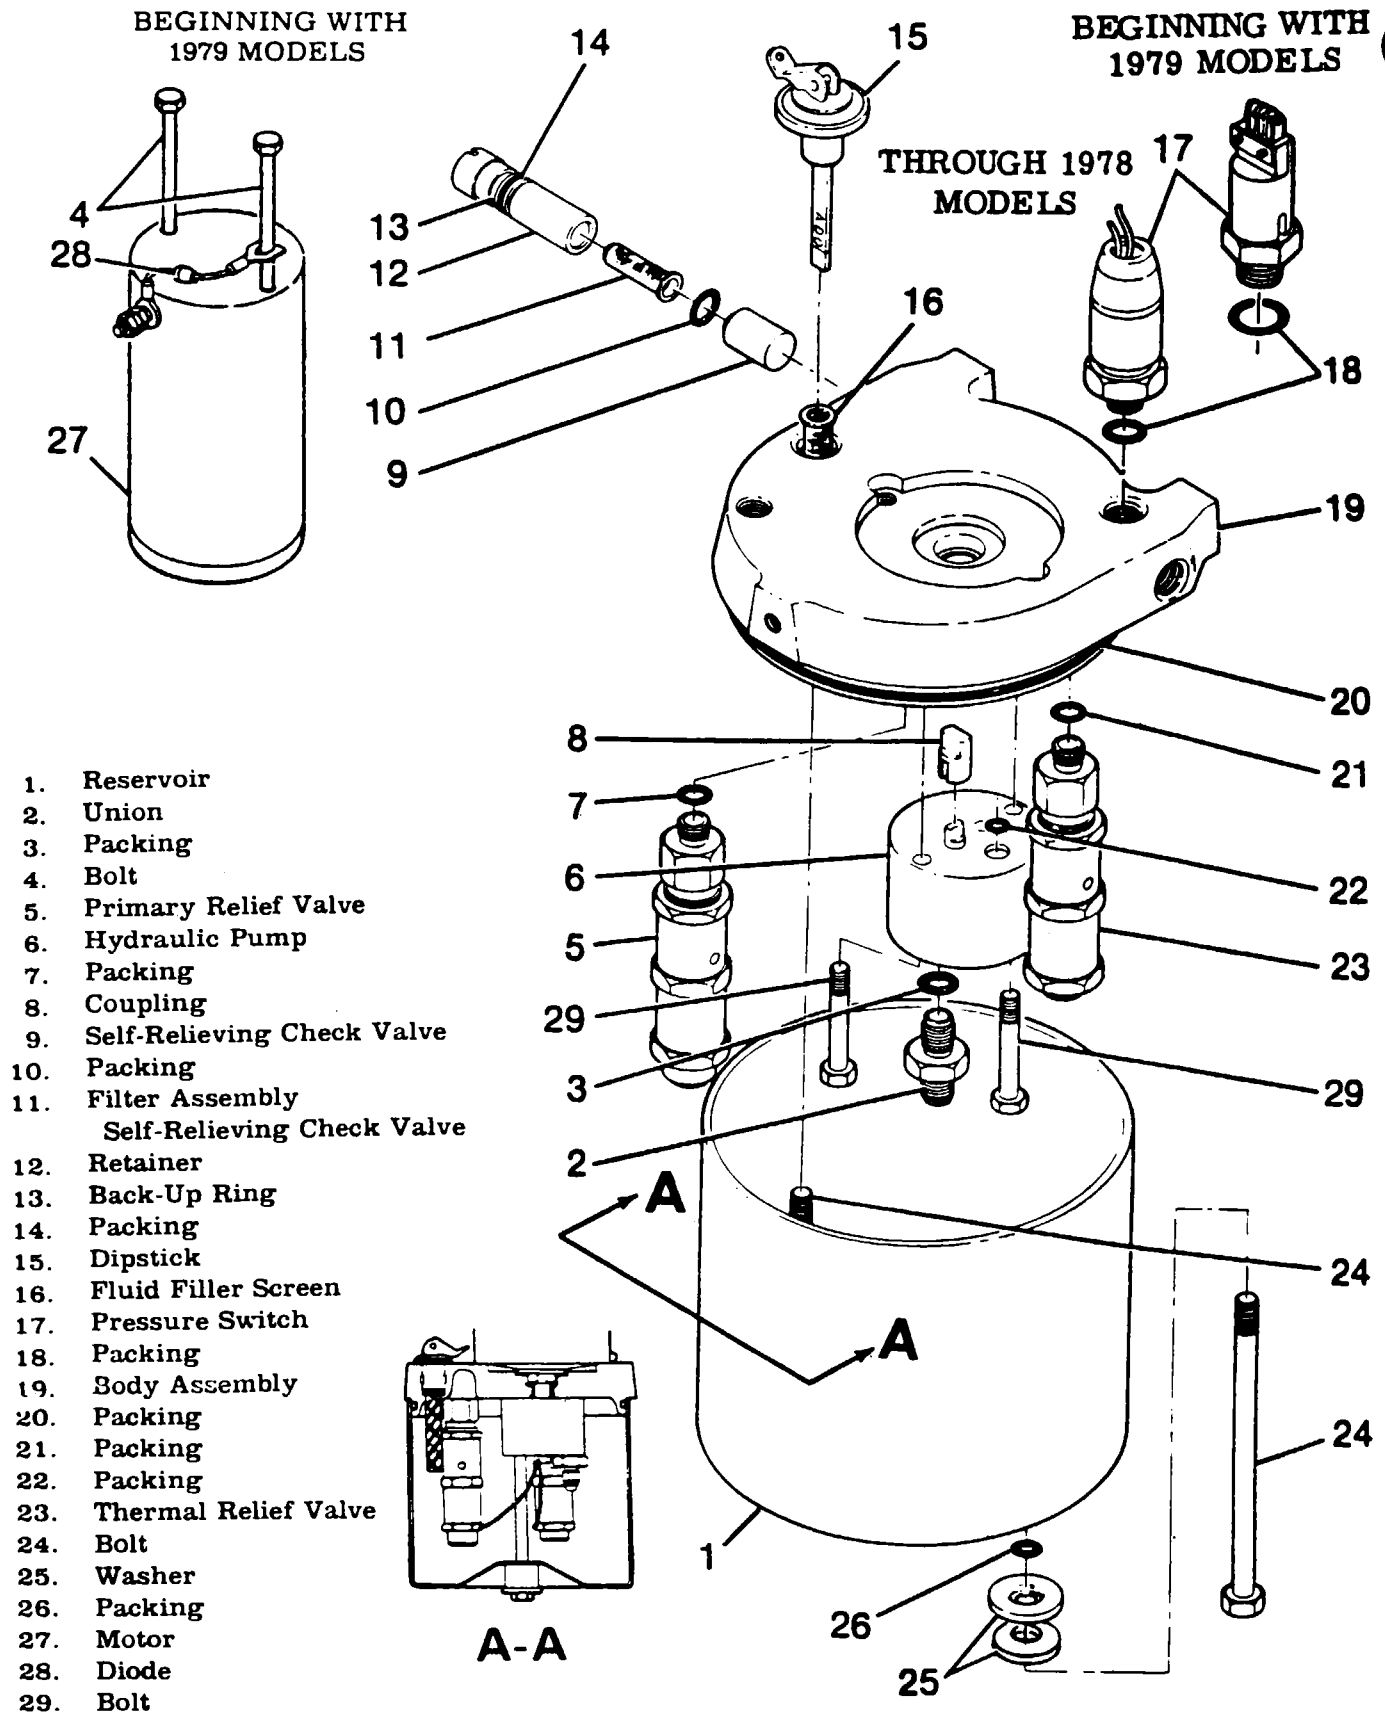

Figure 5-3. Hydraulic Power Pack Assembly (Sheet 2 of 2)
- 5-4. **POWER PACK.** (See figure 5-3.)
A small diode assembly wire spans across the positive and negative posts on the motor. It is very important that this diode assembly, if removed or being replaced, be installed on the motor with the marking band of the diode toward the positive post. (See figure 5-3.)
5-7. DISASSEMBLY (THRU 1978 MODELS.) (See figure 5-3, sheet 1 of 2.)
5-8. INSPECTION. (THRU 1978 MODELS.) (See figure 5-3, sheet 1 of 2.)
5-9. REASSEMBLY. (THRU 1978 MODELS.) (See figure 5-3, sheet 1 of 2.)
5-10. DISASSEMBLY. (Beginning with 1979 MODELS.) (See figure 5-3, sheet 2 of 2.)
- g. Remove pressure switch (17) and packing (18) from body assembly (19).
- h. Remove bolts (29) attaching hydraulic pump (6) to body assembly (19), and remove pump and coupling (8) from body assembly. Remove union (2) from pump, and remove packings (3) and (22).
- * i. Cut safety wire and remove bolts (29) attaching hydraulic pump (6) to body assembly (19), remove pump and coupling (8) from body assembly, and remove packing (22).
- j. Cut safety wire and remove bolts (4) from motor (27); remove motor from body assembly (19).
- 5-11. INSPECTION. (Beginning with 1979 MODELS.) (See figure 5-3, sheet 2 of 2.)
- 5-12. REASSEMBLY. (Beginning with 1979 MODELS.) (See figure 5-3, sheet 2 of 2.)